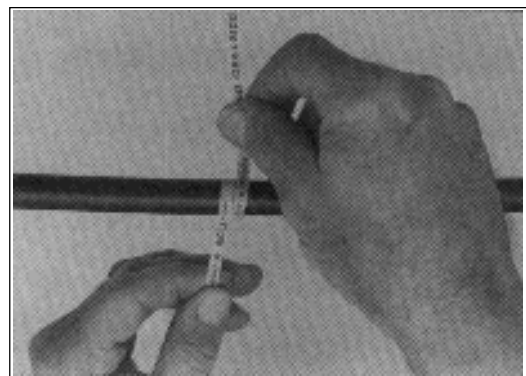

FIGURE 38 - MEASURING WITH FIBER OPTIC MEASURE TAPE
24.02 To use the Fiber Optic Measure Tape, hold the tape so the index line is facing you. Then wrap the tape around the cable tightly to obtain the reference number. (Figure 38)